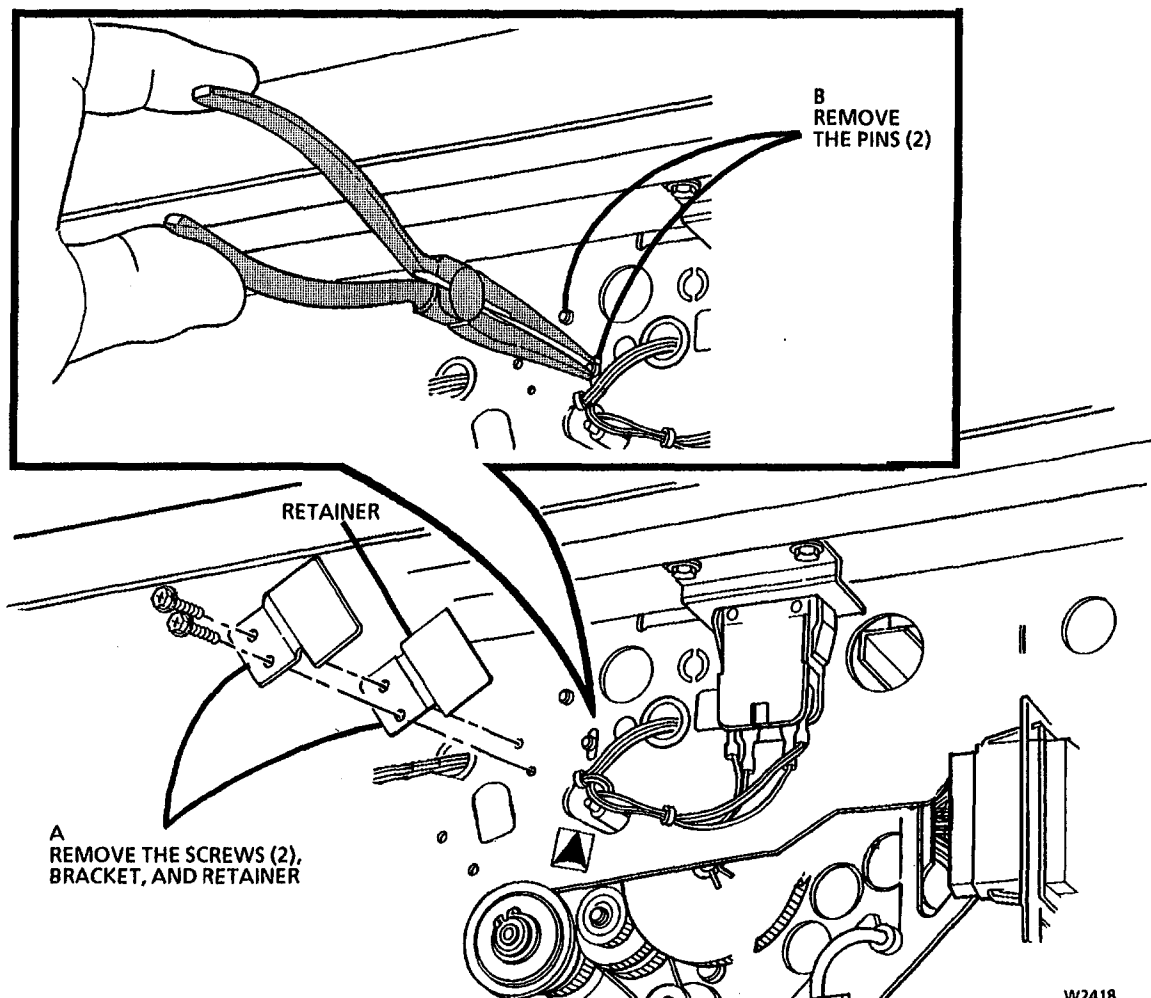

Figure 1. Removing the Retainer and the Pins
2. (Figure 1): Remove the retainer and the pins.